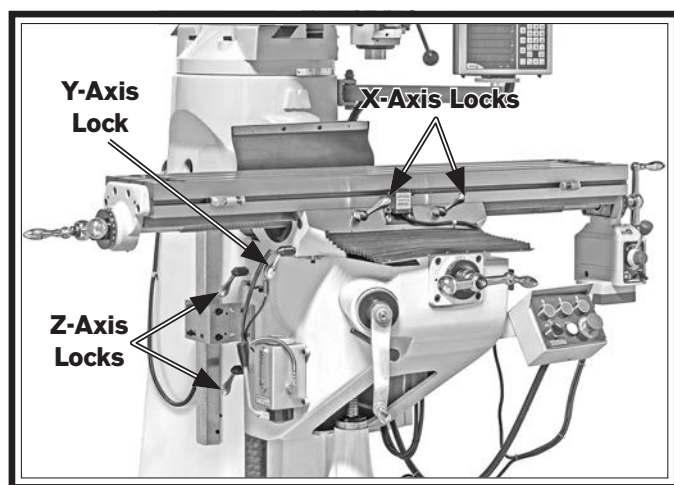

Figure 32. Locations of table locks.
Refer to **Figure 32** for the locations of the locks used to secure the table in place.
1. Loosen X-axis table locks (refer to **Figure 32** on **Page 31**).